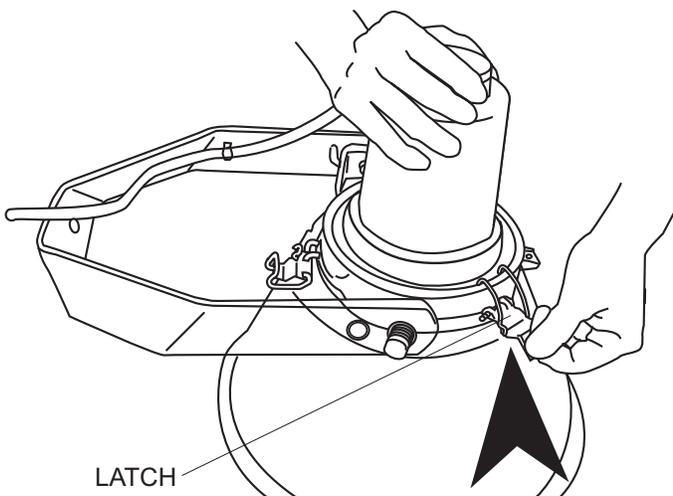

Figure 12. Securing Latch
3. Tighten all three latches to secure reflex mirror to the socket. See Figure 12.